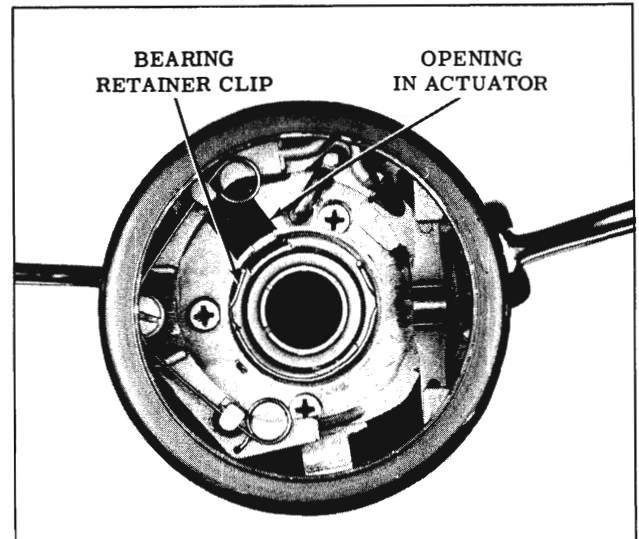

Fig. 4-285 Bearing Retainer Position
2. Install bearing retainer clip in the actuator assembly aligning retainer as shown in Fig. 4-285.
7. Using a small screwdriver pry the upper bearing to actuator assembly retaining clip out of the actuator housing. (Fig. 4-285)